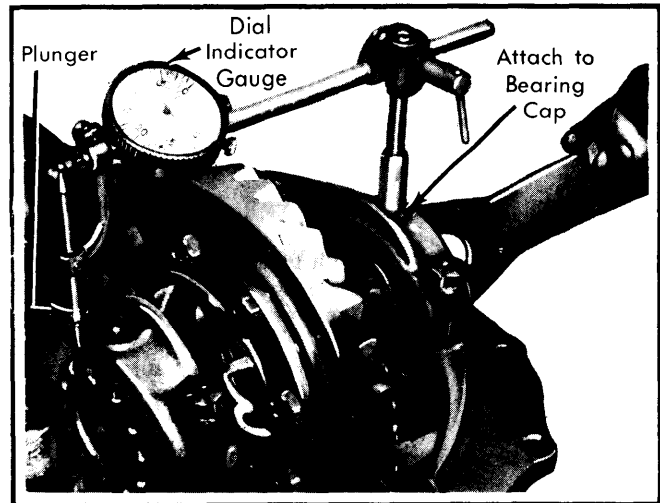

Fig. 3 Dial Indicator Installation to Adjust Bearing Preload
2) Install a dial indicator as shown in Fig. 3. Tighten right nut two notches past where it first contacts bearing cup, then turn differential several rotations to seat bearings.